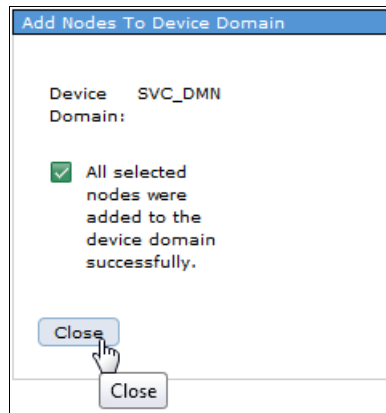

Figure 4-51 Three-node cluster: Node successfully added to recovery domain
12. A status message is then displayed that shows that the third node was added to the recovery domain, as shown in Figure 4-51. Click **Close**.